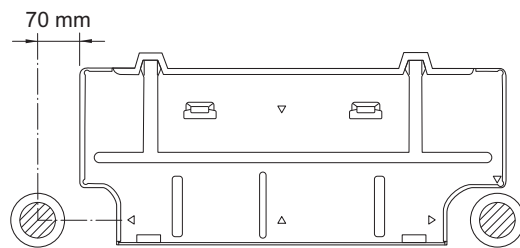

Fig. 2-193
- (1) Place the rear panel from the indoor unit on the wall at the location selected. Make sure the panel is horizontal, using a carpenter's level or tape measure to measure down from the ceiling. Wait until after cutting the hole before attaching the rear panel to the wall.
- (2) Determine which side of the unit you should make the hole for tubing and wiring. (Fig. 2-193)
In the case of left-rear tubing, use the measurement points from the edge of the rear panel for precise placement of the hose outlet. (Fig. 2-193)